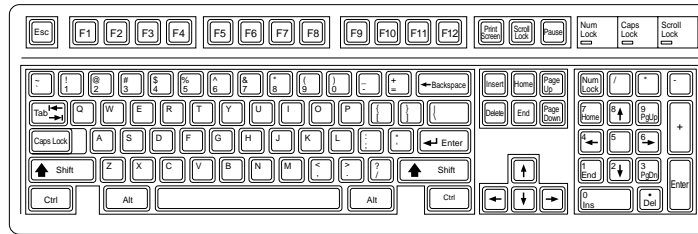

FIG. 9.3 101-key enhanced keyboard layout.
**Enhanced 101-Key (or 102-Key) Keyboard.** In 1986, IBM introduced the “corporate” enhanced 101-key keyboard for the newer XT and AT models (see Figure 9.3). I use the word “corporate” because this unit first appeared in IBM’s RT PC, which is a *RISC (Reduced Instruction Set Computer)* system designed for scientific and engineering applications; keyboards with this design are now supplied with virtually every type of system and terminal that IBM sells. Other companies quickly copied this design, and it has been the standard in PC-compatible systems ever since.